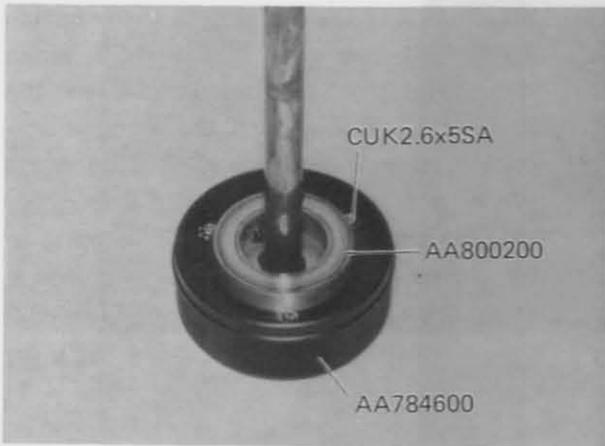

Fig. 4-18
- d) Reassemble Coarse adjustment knob AA-784600 with three Screws CUK2.6x5SA and three Washers AA800200. (See Fig. 4-18)